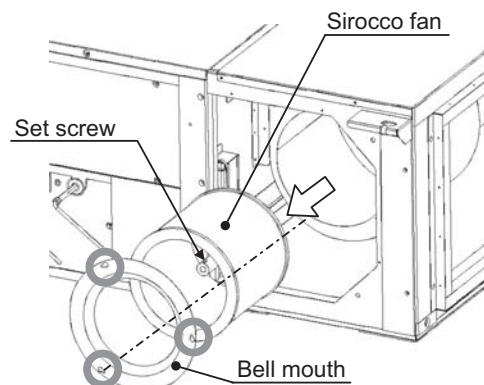

Fig.13
4. To remove the fan (Fig.13, 14, 15)